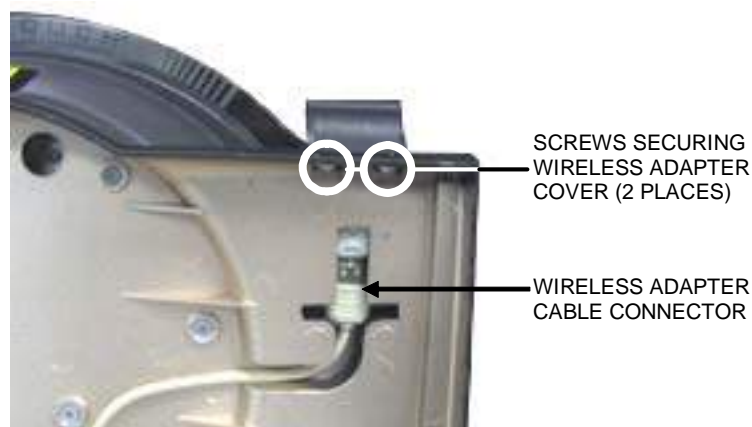

FIGURE 5 - INSIDE BEZEL OF OPEN MONITOR ASSEMBLY
8. Open the monitor assembly and remove the 2 screws securing the wireless adapter cover (see Figure 5). Remove the cover, then gently pull the wireless adapter up and out of the system. Twist the wireless adapter cable connector and slide it out of position in order to remove it from the plastic monitor assembly. When you are done with this, the wireless adapter cable should be hanging loosely from the front of the system.
38. Twist the wireless adapter cable connector back into place (see Figure 5).
39. Insert the wireless adapter back into the wireless adapter cable connector, then place the wireless adapter cover back on the unit. Secure the cover in place with the two screws you removed earlier (see Figure 5).